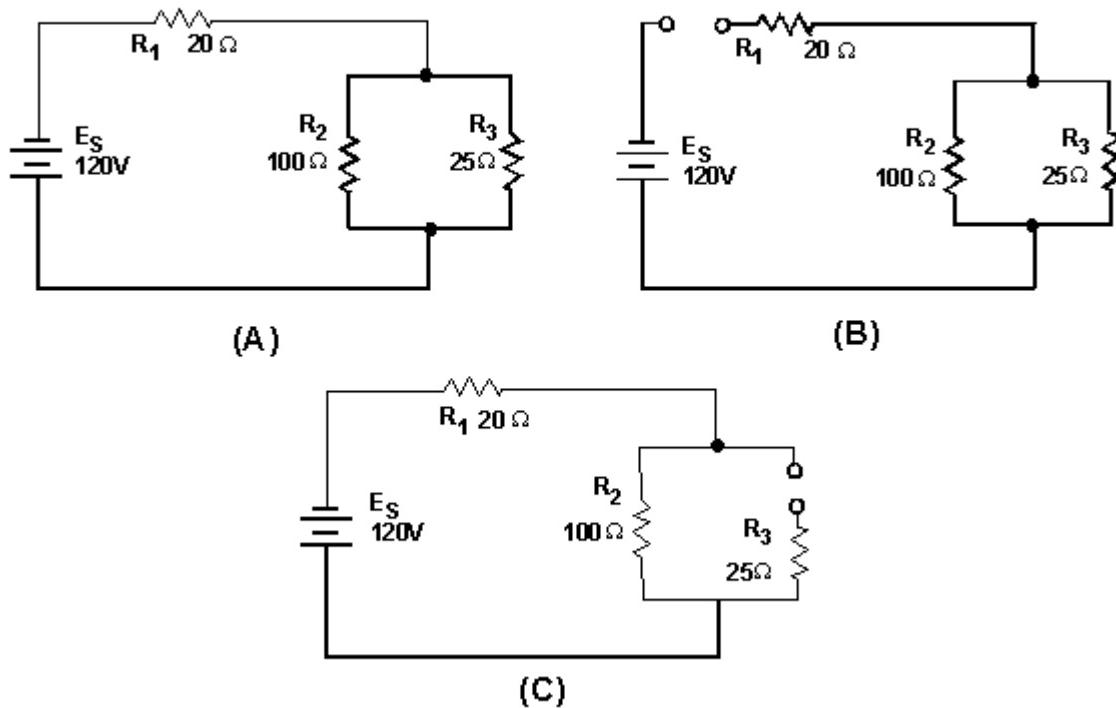

Figure 3-61.—Series-parallel circuit with opens.
To clarify these points, figure 3-61 illustrates a series parallel circuit. First the effect of an open in the series portion of this circuit will be examined. Figure 3-61(A) shows the normal circuit, $R_T = 40\Omega$ and $I_T = 3\text{ amps}$. In figure 3-61(B) an open is shown in the series portion of the circuit, there is no complete path for current and the resistance of the circuit is considered to be infinite.
In figure 3-61(C) an open is shown in the parallel branch of R_3 . There is no path for current through R_3 . In the circuit, current flows through R_1 and R_2 only. Since there is only one path for current flow, R_1 and R_2 are effectively in series.